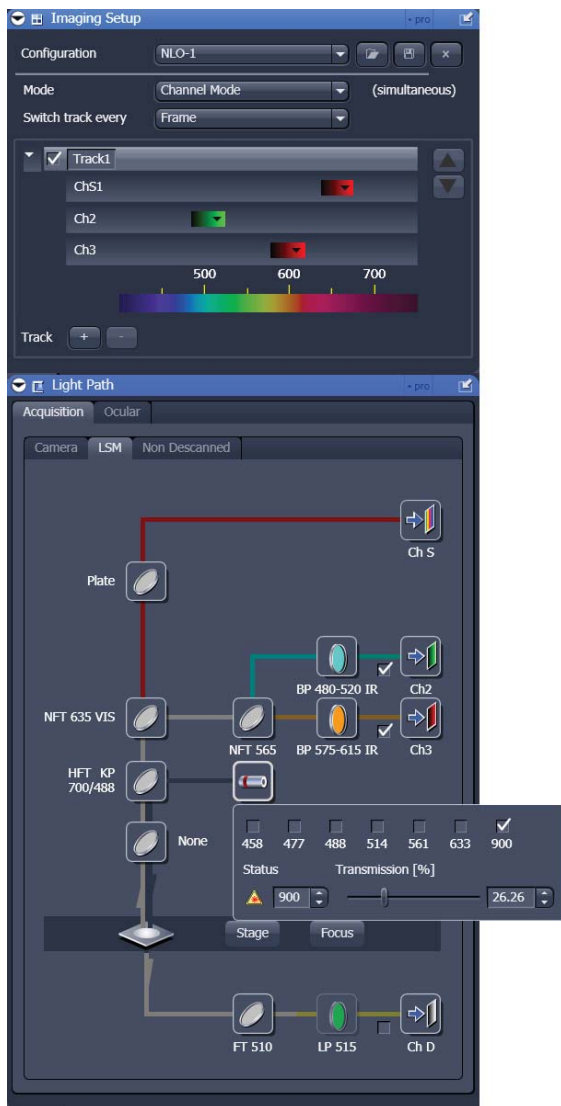

Fig. 8-2 Imaging Setup and Light Path tool
- The wavelength and laser intensity (transmission through an Acousto-Optical Modulator, AOM) are controlled in the laser control pop up from the **Light Path** tool (Fig. 8-2).